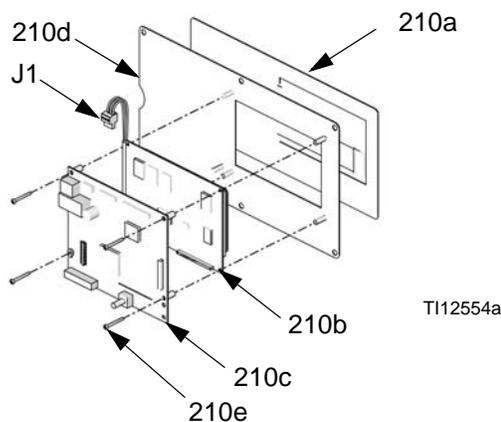

FIG. 15: Display Interface
4. Remove 4 screws (210e) and the display board assembly (210b, 210c). FIG. 15.
7. To assemble the new parts, align connector J2 on the display board (210c) with the socket on the graphic display (210b). Press them together. See FIG. 15.
10. Plug all connectors into display board (210c). FIG. 15. Confirm that the cables do not pinch when opening or closing the door.